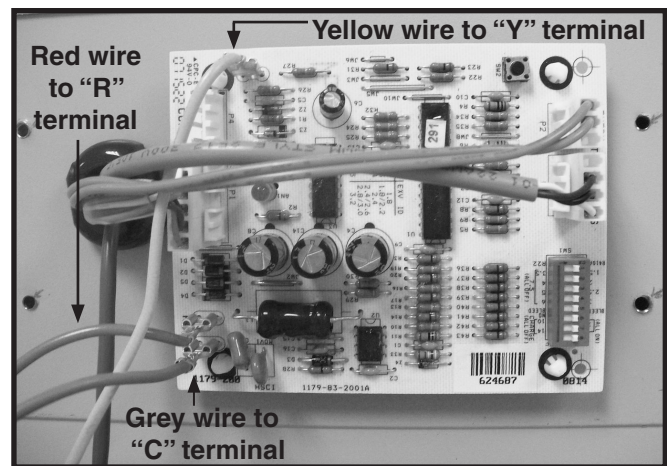
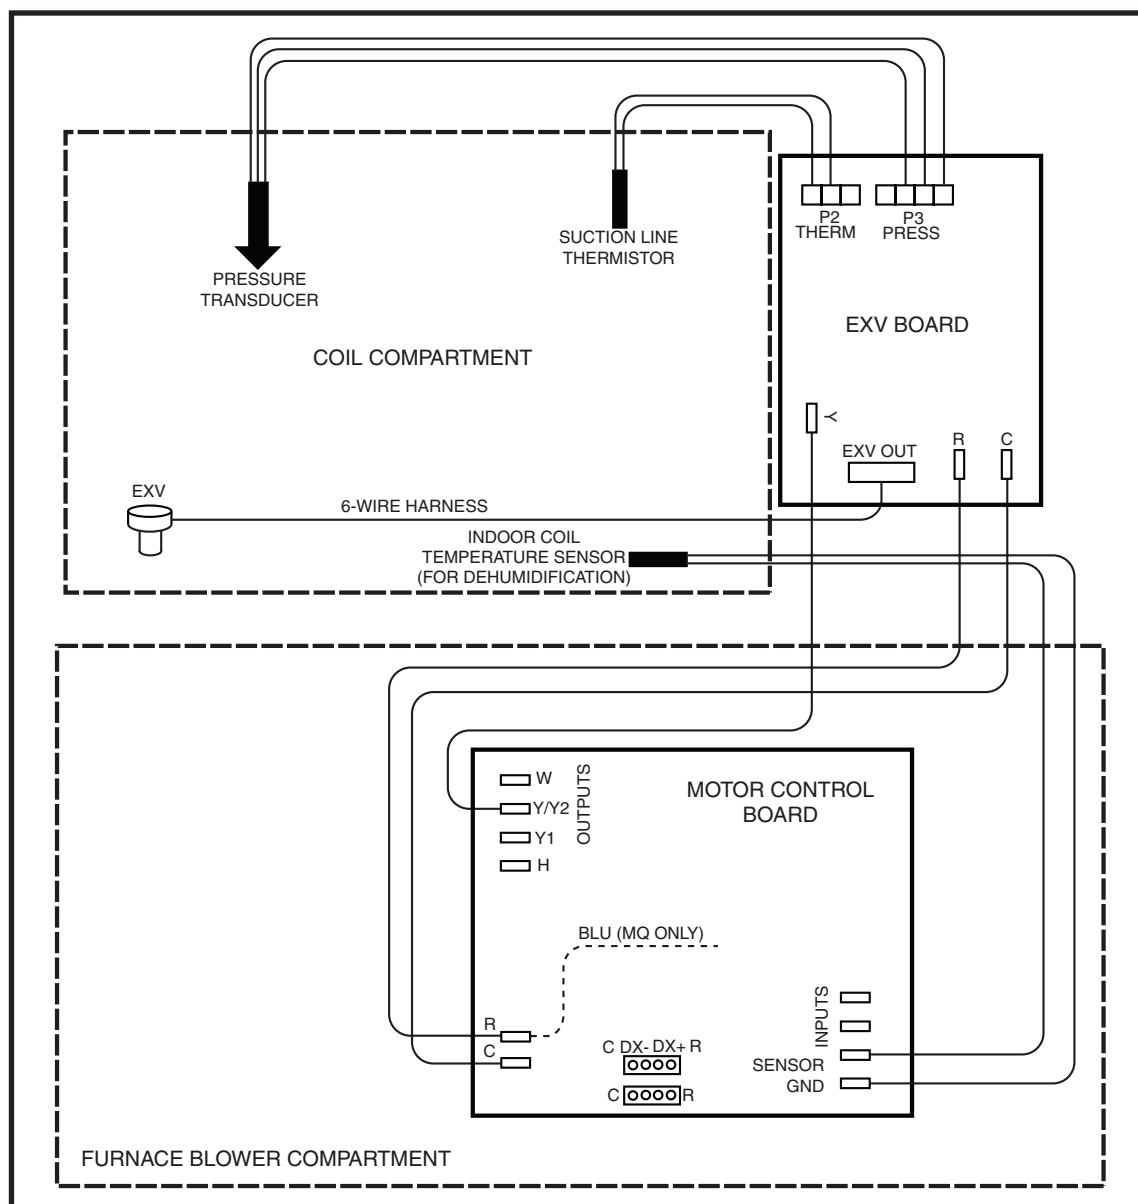

Figure 4. Control Board with Y, R, & C Wires
Figure 5. Wiring Diagram
9. Connect the provided yellow, red, and gray terminated wires to the proper terminals on the EXV Board. See Figure 4 and the wiring diagram in Figure 5.